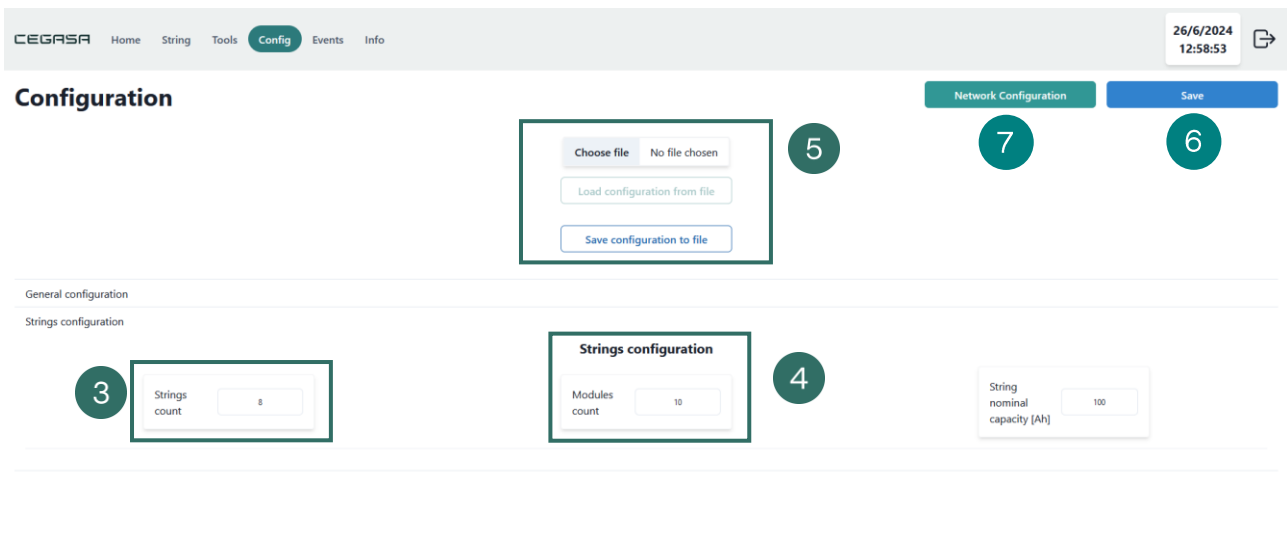

Figure 2-2. Web app. Configuration Screen – Configuration Strings Tab.
3. **Number of strings connected in parallel**, on the Strings Configuration tab (3, Figure 2-2). It is equivalent to the number of BMUs connected to the system.
4. **Number of Modules connected in series to the string**, in the Configuration tab (4, Figure 2-2). It is equivalent to the number of BMUs connected to the system
Users can save and/or load the configuration file using the file loading and saving options (5, Figure 2-2).
Once the configuration has been completed, users need to click the save button (6, Figure 2-2) to send the configuration to the Master unit. If the installer changes the battery model and/or number of modules, the system will automatically restart. This system reboot may take a few seconds.
On the Config screen there is the option to configure the Ethernet network by clicking the Network Configuration button (7, Figure 2-2). With this configuration you can configure a fixed IP or DHCP.